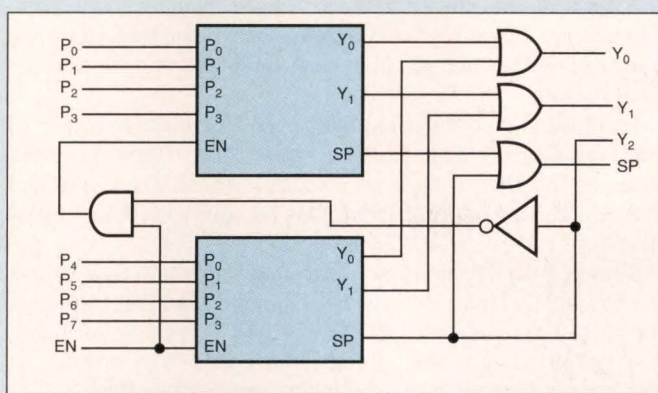

**Fig 1**—The simple 2-to-1 input priority encoder in (a) extends easily to a 4-to-2 priority encoder.
The simplified approach in **Fig 1(a)** shows a 2-to-1 priority encoder, which generates the proper output as well as a signal-present output (SP). SP indicates the presence of any signal at the inputs, simplifying testing. By inspection, you can see that the circuit in **Fig 1(a)** is a priority encoder.
The circuit in **Fig 1b** combines two of **Fig 1(a)**'s basic build-
The simple off-line power supply in **Fig 1** can provide 150 mA or less and uses only a handful of components. Current regulator, IC1, acts as a preregulator for any of the popular 3-terminal regulators (The figure shows a 78L05). Because IC1 drops most of the voltage in this circuit, the circuit suits only low-current applications.
**Fig 1**—A current regulator feeds just the right amount of current to a common 3-terminal regulator, enabling this simple low-current power supply to operate directly from the mains.